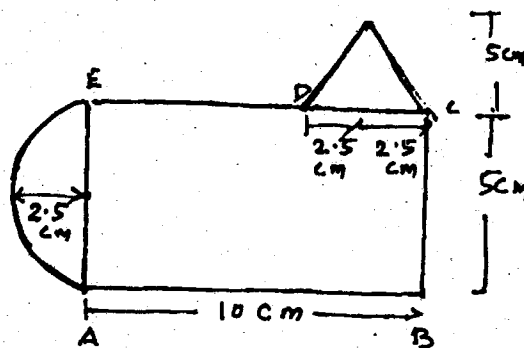

Fig. 6
13. (a) For the plane uniform lamina shown in Fig. 6. Find the centroid.